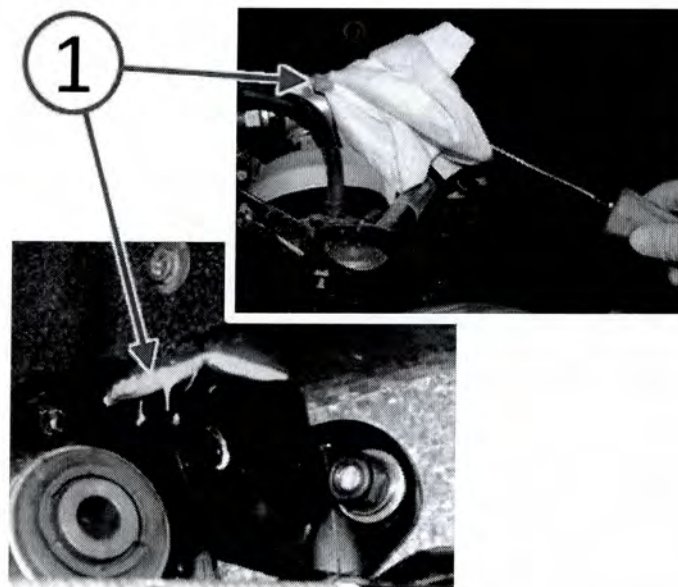

Fig. 11 Remove Excess Adhesive
22. Remove any excess structural adhesive (1) that may have squeezed out between the shock absorber bracket and the vehicle structure (Fig. 11).